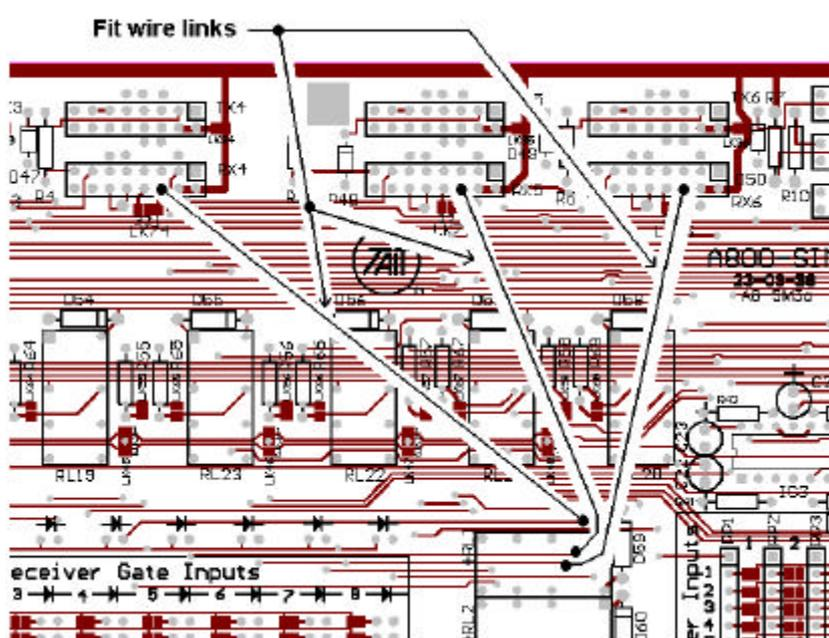

Fig 2.
10. On the A800-SIM3a PCB, place the wire jumpers as shown in Fig 2. These links connect the coils of relays RL1, 2 & 3 to the RX Gate inputs on pin 11 of ports 4, 5 & 6, which allows the RXGATE inputs to directly control these relays and switch audio to the S1530 selcall module. Connections should be made on the solder side. These links are equivalent to making connections between the following points;